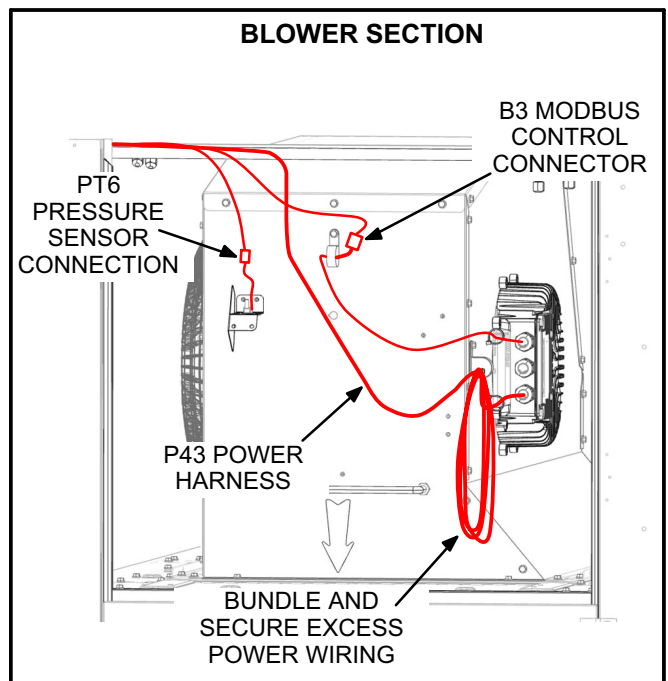

FIGURE 2
- 3- Disconnect B3 Modbus connection and PT6 connection in the blower section. See figure 2.
- 13- Connect P48, B3 Modbus, and PT6 connections as shown in figures 2 and 3.